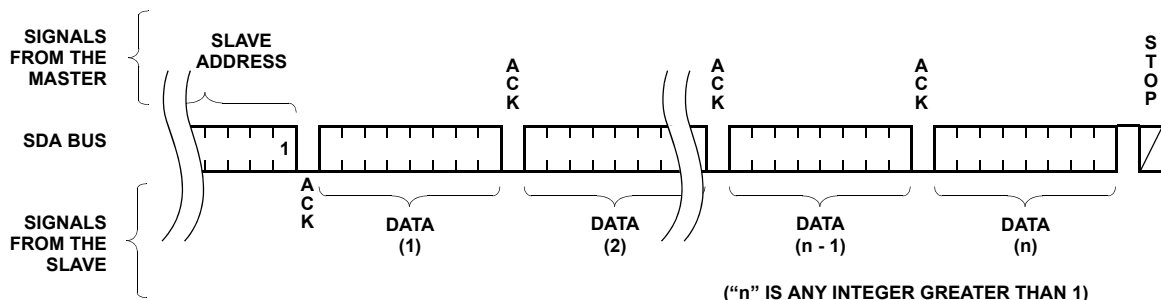

FIGURE 11. SEQUENTIAL READ SEQUENCE
The data output is sequential, with the data from address n followed by the data from address n + 1. The address counter for read operations increments through all page and column addresses, allowing the entire memory contents to be serially read during one operation. At the end of the address space the counter “rolls over” to address 0000H and the device continues to output data for each acknowledge received. Refer to Figure 11 for the acknowledge and data transfer sequence.
- one bit of the slave command byte is a R/W bit. The R/W bit of the slave address byte defines the operation to be performed. When the R/W bit is a one, then a read operation is selected. A zero selects a write operation. Refer to Figure 11.